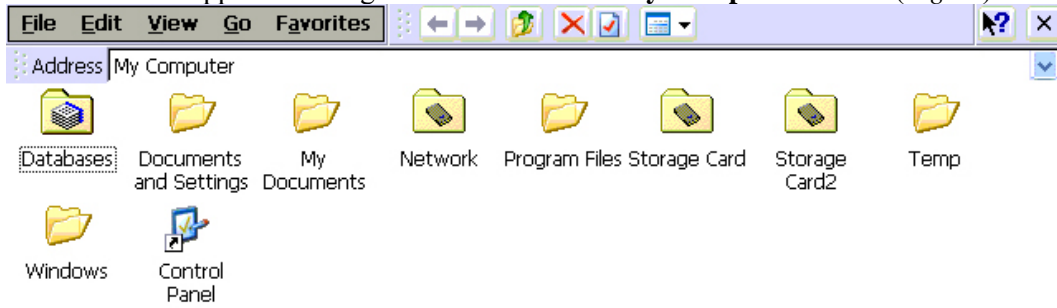

Fig 19
39. A window will appear showing the contents of the “**My Computer**” folder (*Fig 19*).